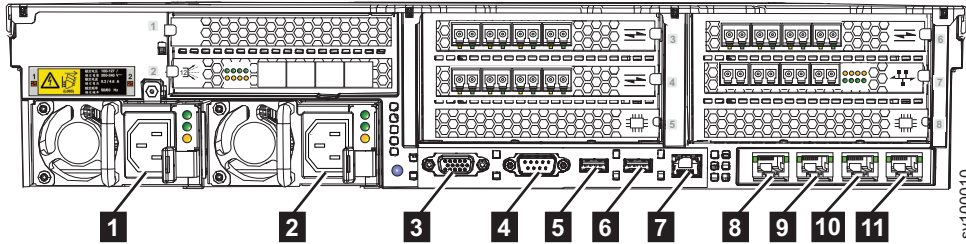

Figure 211. Connectors on the rear of the 2145-SV1 node
2. Remove and label the Ethernet cables that are attached to Ethernet ports 1-3 (**8** , **9** , and **10**), as shown in Figure 211.